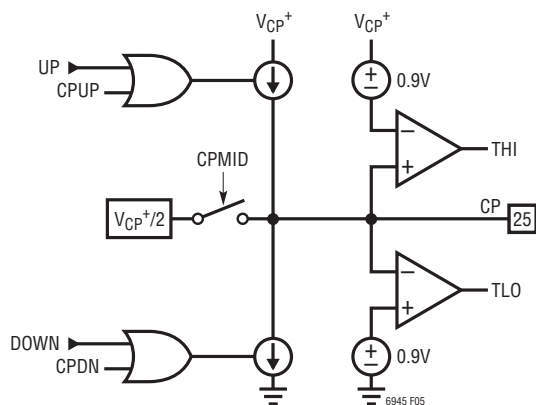

Figure 5. Simplified Charge Pump Schematic
The charge pump, controlled by the PFD, forces sink (DOWN) or source (UP) current pulses onto the CP pin, which should be connected to an appropriate loop filter. See Figure 5 for a simplified schematic of the charge pump.
The CPCHI and CPCLO bits found in register h0A enable the high and low voltage clamps, respectively. When CPCHI is enabled and the CP pin voltage exceeds approximately $V_{CP+} - 0.9V$, the THI status flag is set, and the charge pump sourcing current is disabled. Alternately, when CPCLO is enabled and the CP pin voltage is less than approximately 0.9V, the TLO status flag is set, and the charge pump sinking current is disabled. See Figure 5 for a simplified schematic.